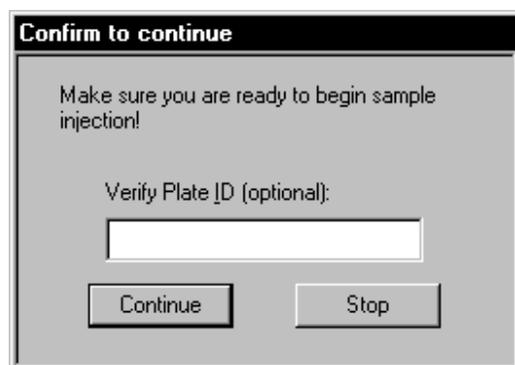

Figure 11-8. The Confirm to continue window with optional plate ID verification.
3. Follow the instructions on the instrument displays. After the first tip rinse is finished, the Confirm to continue window appears in the Instrument Control Manager (figure 11-8).